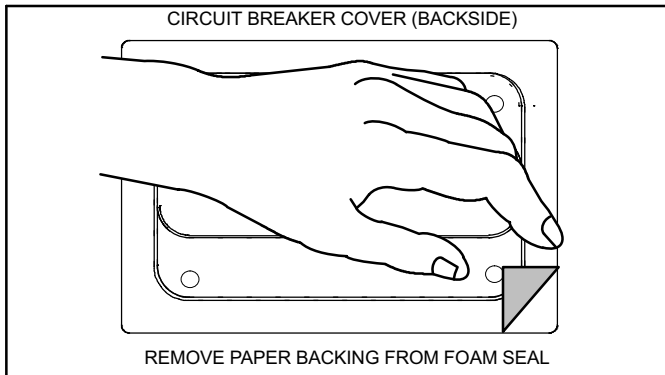

Figure 8. Remove Paper Backing
2. Remove paper backing from foam seal around perimeter of circuit breaker cover (figure 8).